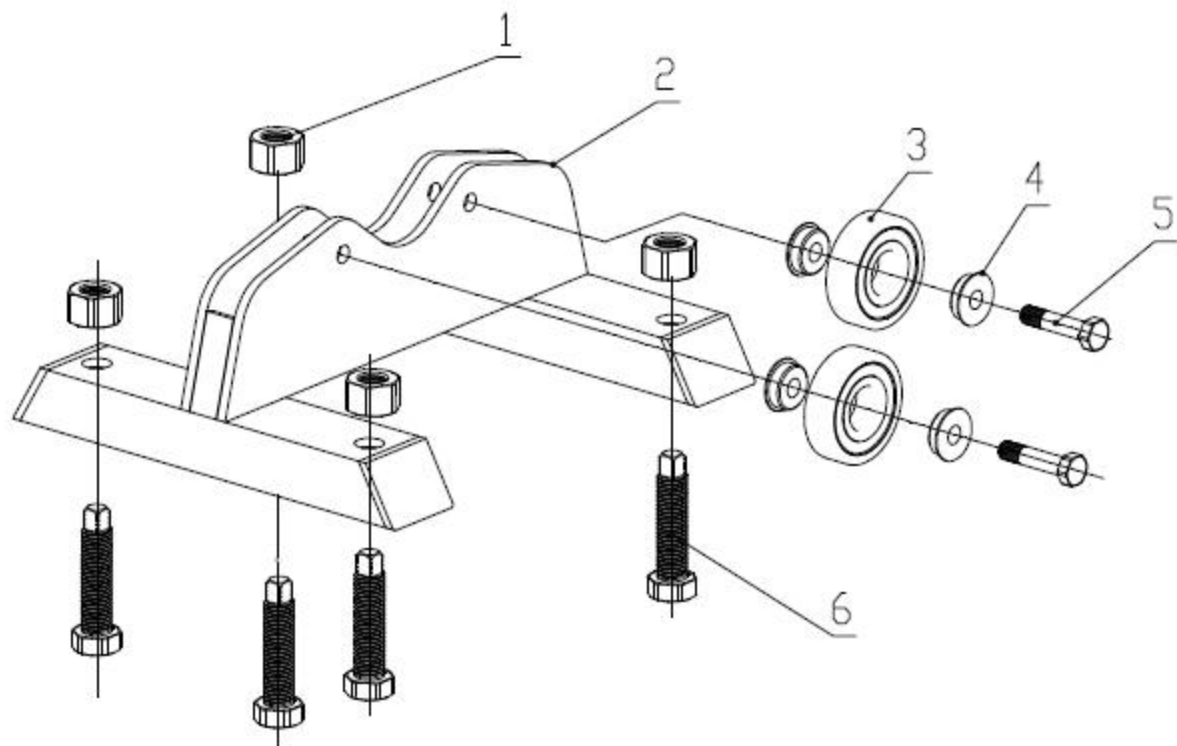

Fig.11
(4) .TWQ- V ' s the parts diagram of Hi-support(Fig.11)